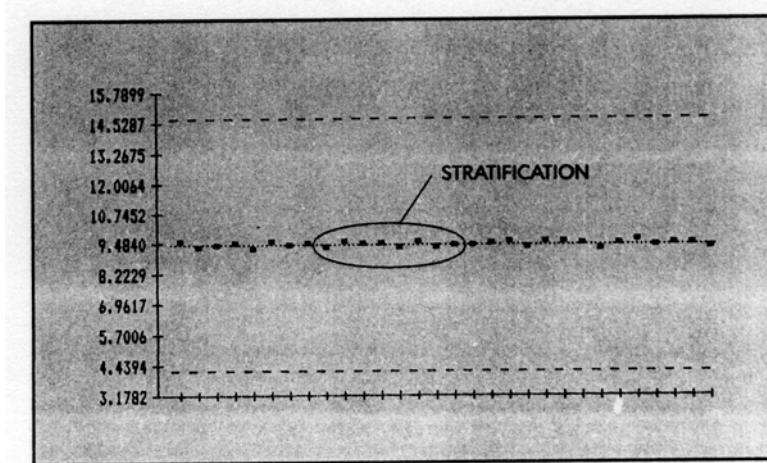

Figure B-7 Stratification Pattern
6. 15 or more points consistently hugging the centerline, indicate the samples are consistently offset each other. or improper calculation as Figure B-7